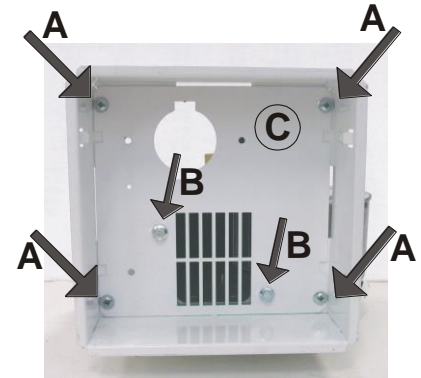

Figure 8– Fan replacement
- Loosen the four screws **A** that are located on the grille on the four corners fig. 8